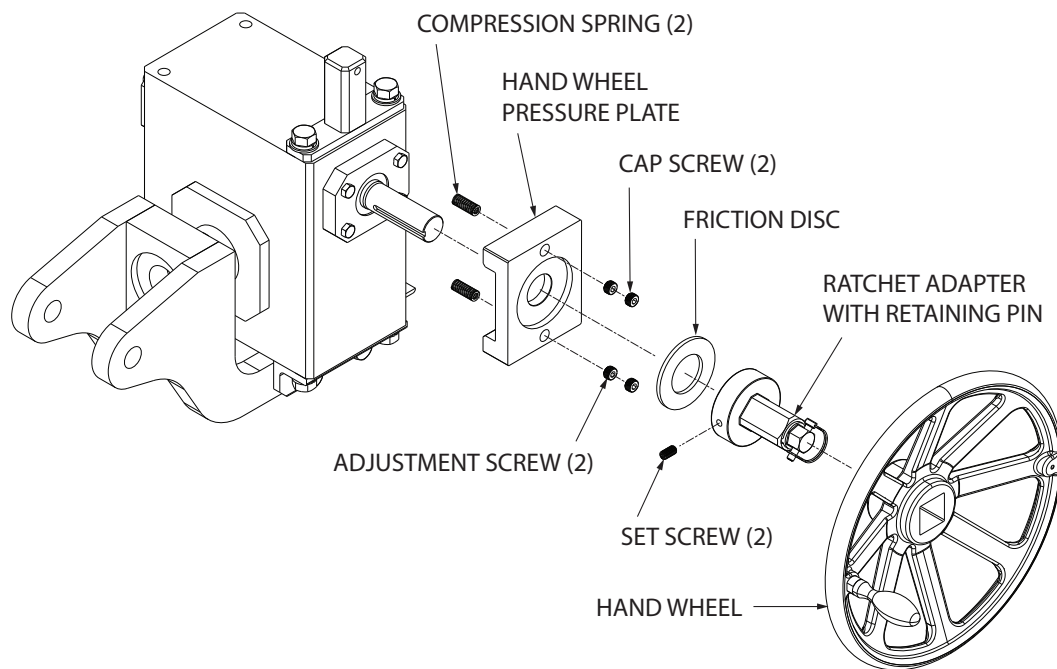

Figure 4.5-1
The inspection and maintenance of the roll operation friction disc clutch (Figure 4.5-1) should be made before each use. All four (4) safety pins (IPB Fig. 10 - Item 11) of the cradle should be installed to prevent cradle rotation. Install wood blocks at the free end of the jack screw tube brace to maintain the jack current position. Then free the jack screw nut assembly to travel by removing four (4) screws, four (4) lock washers and the two (2) pivot pins. Rotate the jack screw hand wheel one to two turns and note the amount of force required. The force required to overcome the friction clutch and turn the hand wheel should be approximately 10 to 15 lbs. (45 to 67 N). Inspection and adjustment of the friction clutch assembly is required if there is little or no resistance felt when the hand wheel is rotated.